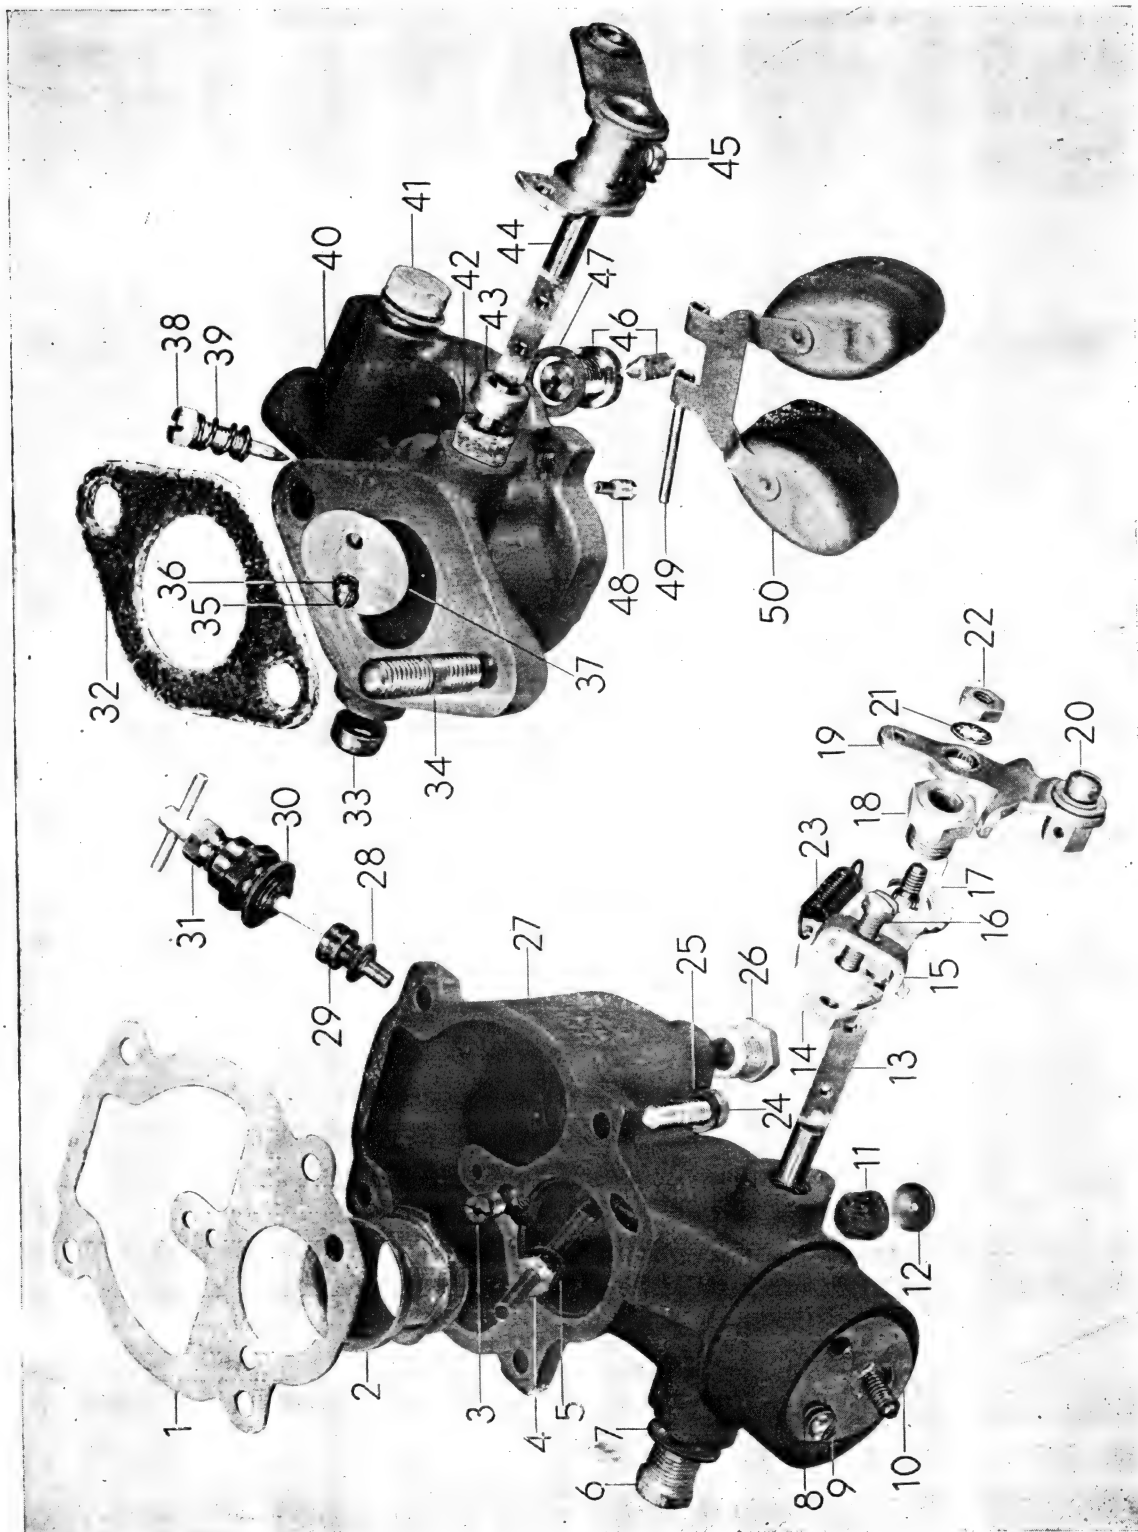

Figure 19 — Carburetor Assembly and Parts
**CARBURETOR ASSEMBLY AND PARTS (Fig. 19)**